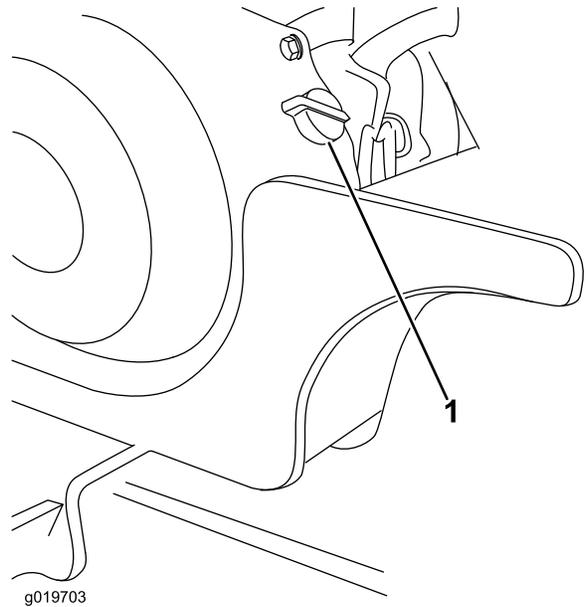

Figure 12
1. Move the engine switch to the On position (Figure 12).